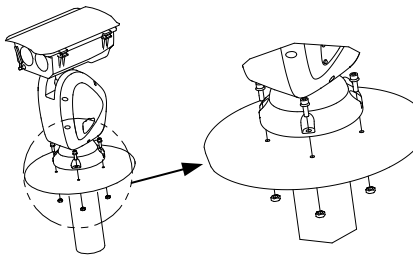
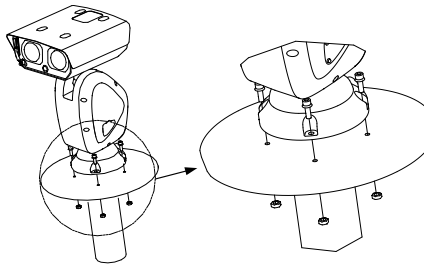

Figure 2-1 Fix the Positioning System (Type III)
Figure 2-2 Fix the Positioning System (Type IV)
- 1) Fix the positioning system onto the bracket pedestal with the supplied M8\*30 screws as shown in Figure 2-1 and Figure 2-2.